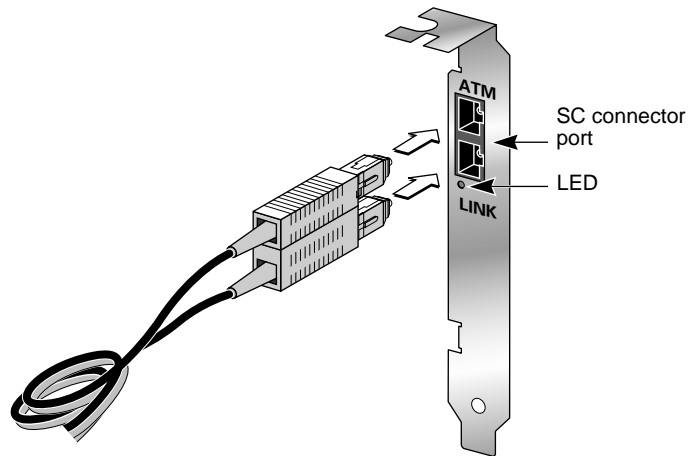

Figure 6-11 Clipping Together the Ends of the Same Fiber Strand
- 2 Clip together the connectors of one of the strands (one strand has markings on it, the other does not), as shown in Figure 6-11.**